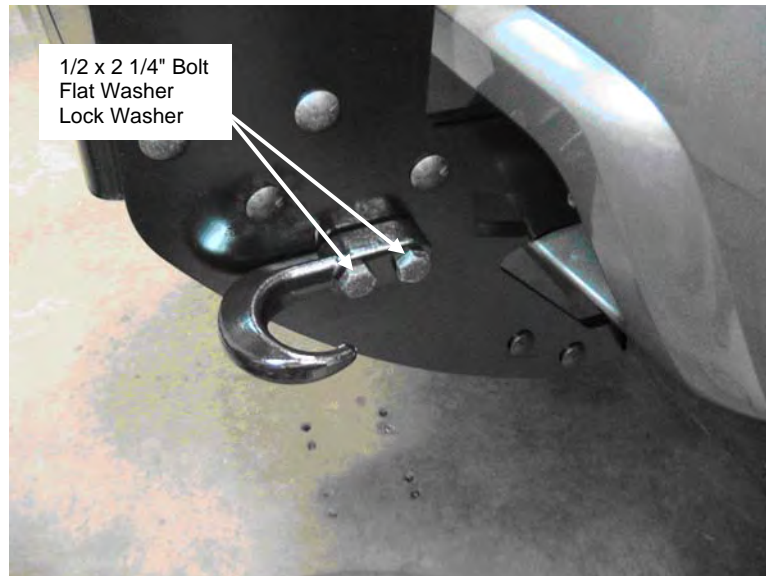

Figure 6 Installing Tow Hooks
15. Install the tow hooks as shown in figure 6, using two 1/2" x 2 1/4" hex bolts, flat washers, lock washers, and hex nuts for each tow hook.